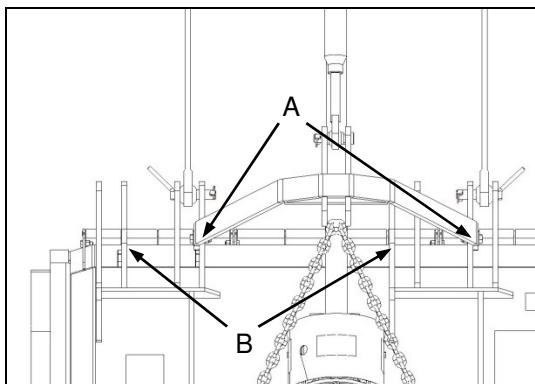

Fig. 4
- ✓ Remove the implement topmast (Fig. 4-A) and reinstall it on the alternative mounting brackets located to the left-hand side of the implement deck (Fig. 4-B).
- ✓ Verwyder die implement se topmas (Fig. 4-A) en herinstalleer dit op die alternatiewe montere hake aan die linkerkant van die implementdek (Fig. 4-B).